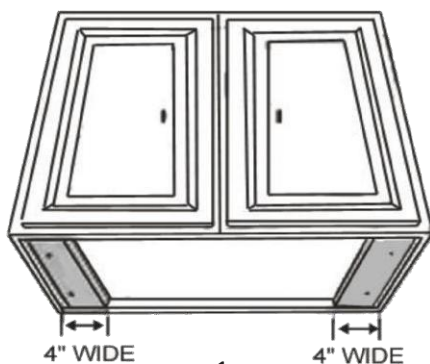

Figure 1
- For installing under the cabinet with recessed bottom, attach 4" wide wood filler strips (not provided) on each side. See Figure 1.